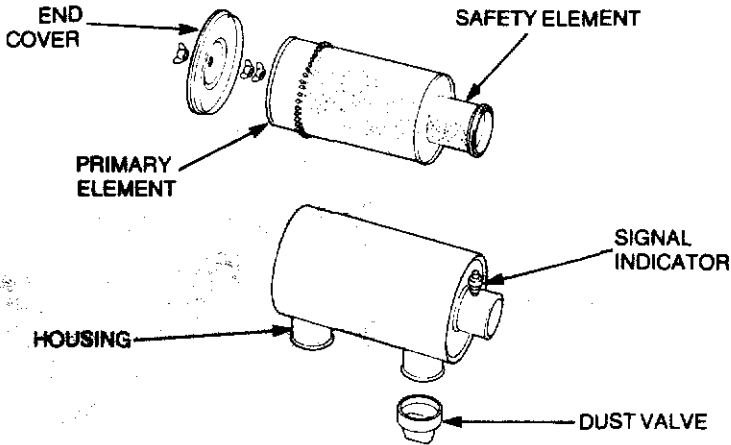

Figure 3-15 Air cleaner elements
- c. Wipe out the air cleaner housing with a clean damp cloth. Remove and clean the dust valve (see Fig. 3-15).